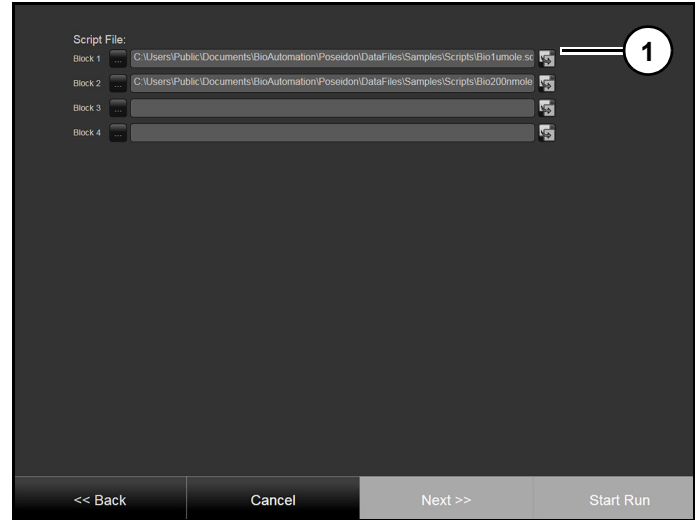

Figure 70
Refer to (Figure 70).
3. Refer to (Figure 70).